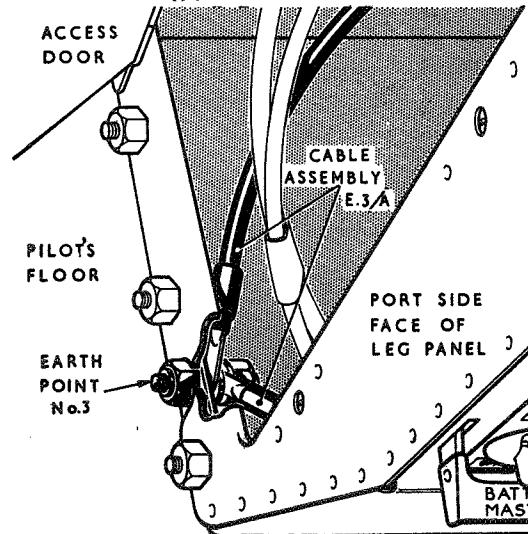

Fig.3 Earth point 3
- Disconnect cable assembly E3/A from earth point 3, obtaining access via the hinged door in the port side of the leg panel (fig.3).